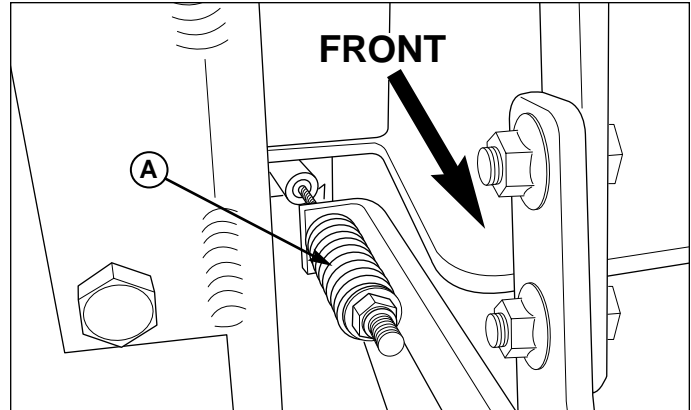

Figure 22. Parking Brake Adjustment
2. Locate the upper brake spring (A, Figure 22).